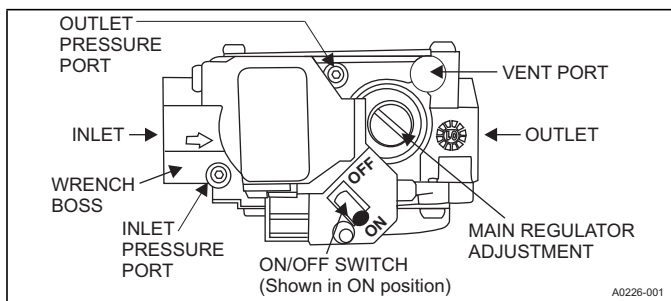

FIGURE 34: Gas Valve
Inlet and manifold gas pressure can be measured by connecting the U-tube manometer to the gas valve with a piece of tubing. Follow the appropriate section in the instructions below. See Figure 34 for the locations of the pressure ports on the gas valve.
Connect the positive side of the manometer to the IN P Tap on the gas valve. Do not connect any tubing to the negative side of the manometer, as it will reference atmospheric pressure. See Figures 34 and 35 for connection details.
Connect the positive side of the manometer to the OUT P Tap on the gas valve. Do not connect any tubing to the negative side of the manometer, as it will reference atmospheric pressure. See Figures 34 and 35 for connection details.
- See Figure 34 for location of pressure regulator adjustment cap and adjustment screws on main gas valve.